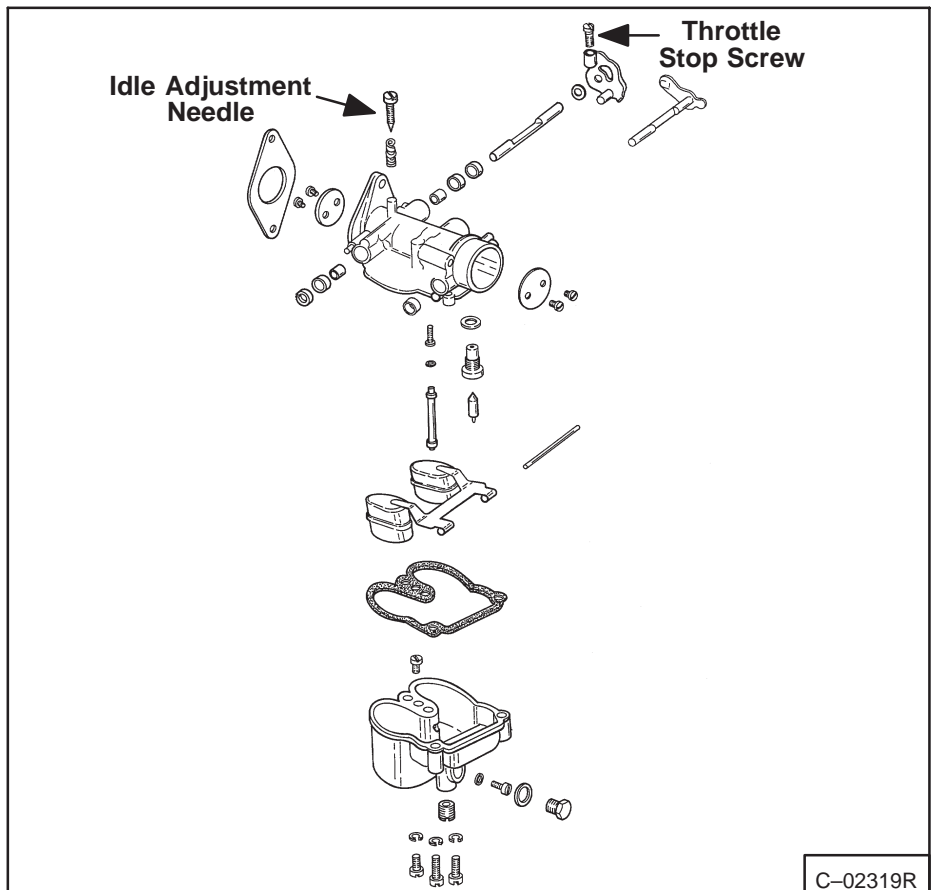

Fig. 1–22 Carburetor Adjustment (630)
6. Install fuel filter with arrow towards carburetor (Fig. 1–21) and be sure fittings are tight.
630: Carburetor Adjustment (Fig. 1–22).